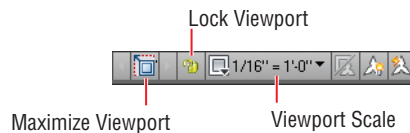

FIGURE 13.14 The status bar's appearance when a floating viewport is active
4. Choose 1/16" = 1'-0" (or 1:200 in metric) from the Viewport Scale menu button on the status bar, as shown in Figure 13.14. The viewport zooms into the building core, which is in the center of the plan. At this exact zoom magnification, the plan appears in 1/16" scale (or 1:200) in the layout.